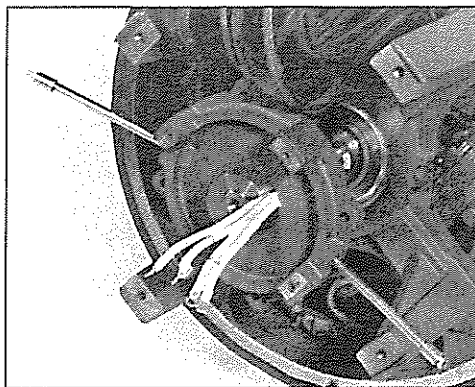
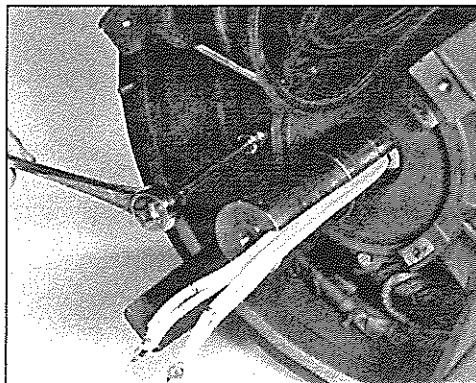

Figure 6-63
Figure 6-64
5. Install the outer bearing cap on the exciter end (figure 6-63). Align holes in inner and outer bearing cap and install cap screws. Torque to 25 ft-lb (34 N-m) – see figure 6-64.